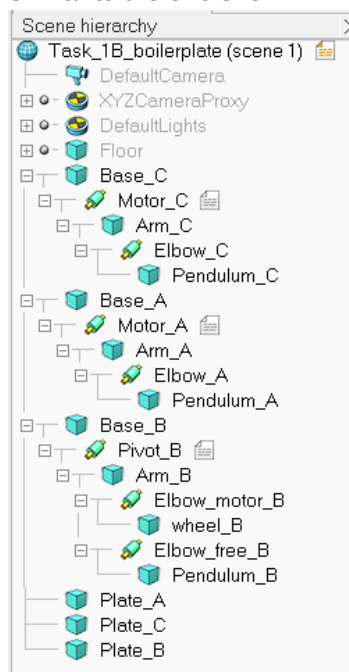

Figure 2: Example of Scene Hierarchy
- You'll find a hierarchical tree structure similar to the one shown in Figure 2.
•You'll find a script icon near the Motor & Pivot as shown in Figure 2.